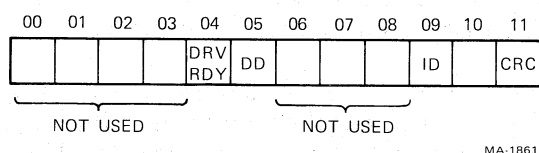

Figure 4-9 RXES Format (RX8E)
4.1.3.6 RX8E – RX Error and Status (Figure 4-9) – The RXES contains the current error and status conditions of the selected drive. This read-only register can be accessed by the read status function (101). The RXES is also available in the interface register upon completion of any function. The RXES is accessed by the XDR instruction. The meaning of the error bits is given below.